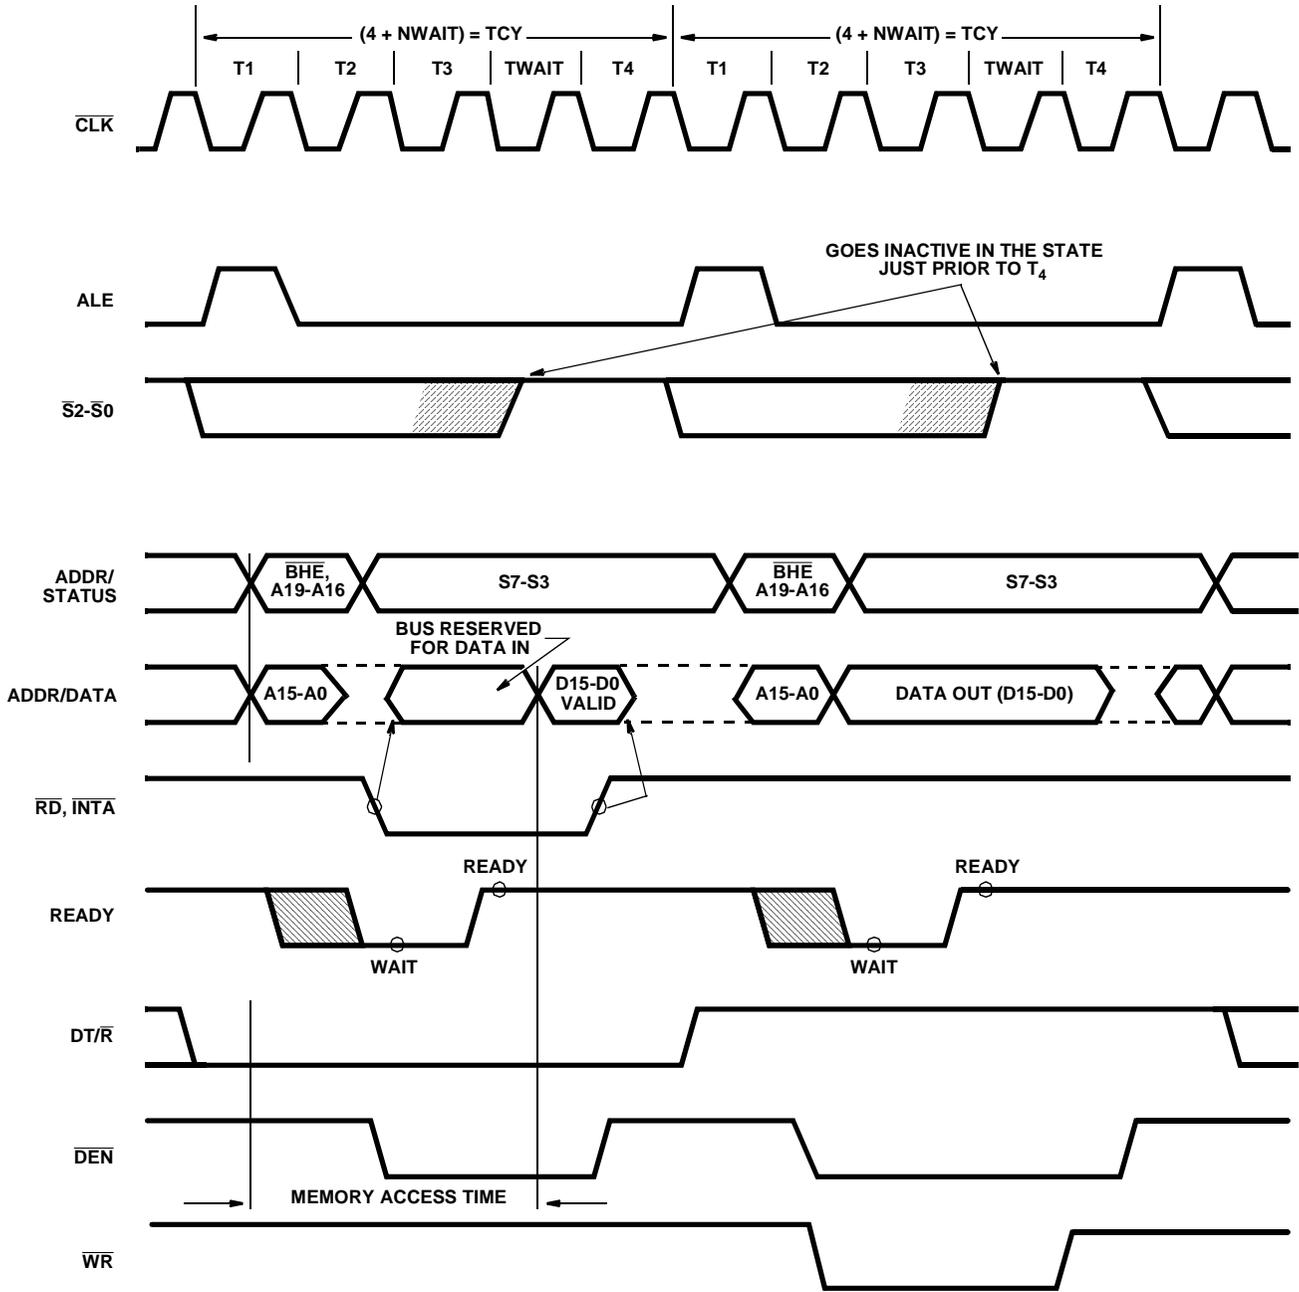

FIGURE 3. BASIC SYSTEM TIMING
Each processor bus cycle consists of at least four CLK cycles. These are referred to as T1, T2, T3 and T4 (see Figure 3). The address is emitted from the processor during T1 and data transfer occurs on the bus during T3 and T4. T2 is used primarily for changing the direction of the bus during read operations. In the event that a "NOT READY" indication is given by the addressed device, "Wait" states (TW) are inserted between T3 and T4. Each inserted wait state is the same duration as a CLK cycle. Periods can occur between 80C86 driven bus cycles. These are referred to as idle" states (Ti) or inactive CLK cycles. The processor uses these cycles for internal housekeeping and processing.